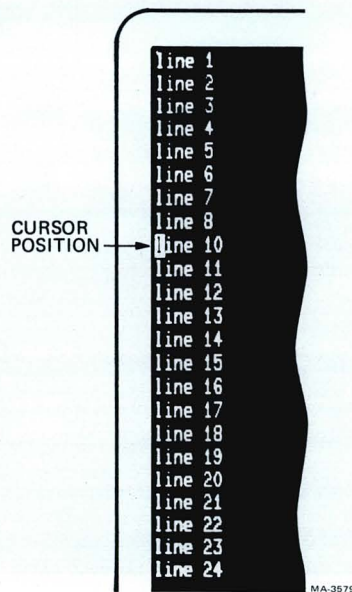

Figure 1-18 Line Deleted from the Screen
2. Press **DELETE LINE** key once. The line on which the cursor is located is deleted and all following lines on the screen move up one line (Figure 1-18).